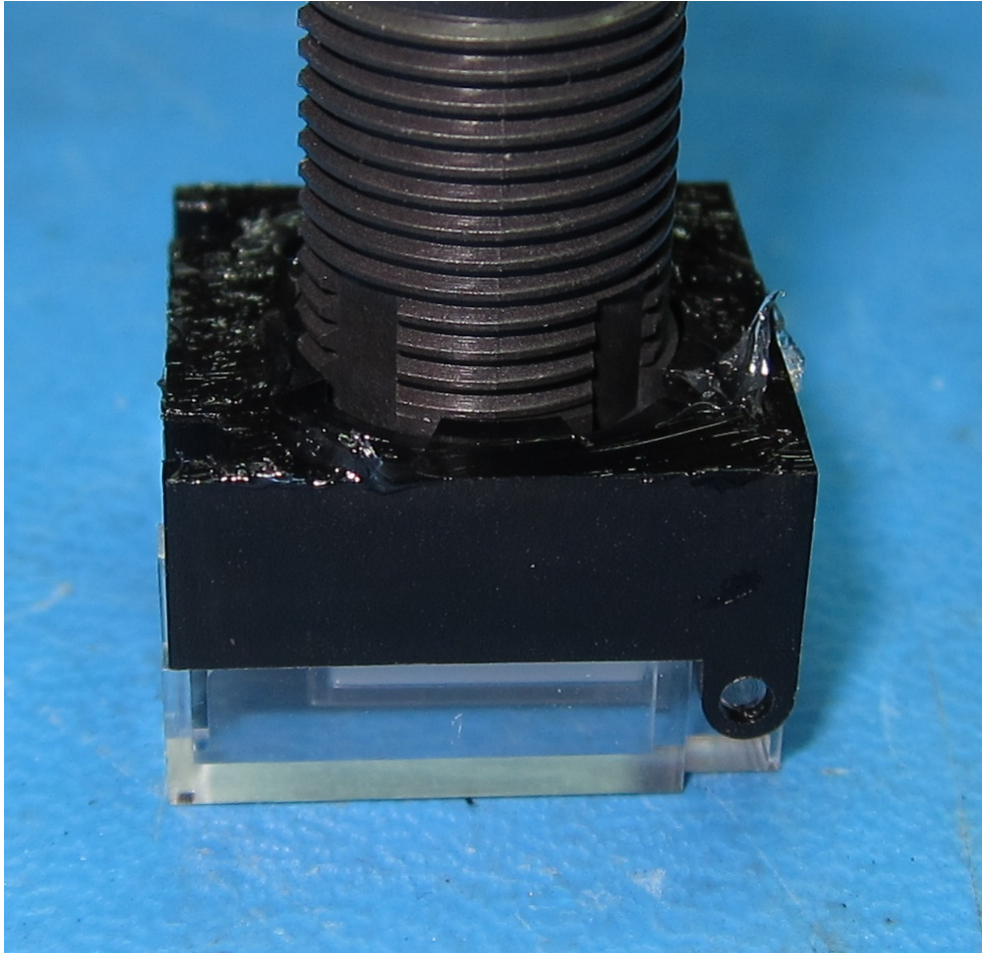

Figure 6: Applying the thin layer of silicone adhesive.
- (d) Close the protective cover and place it facing down on the workbench with switch terminals pointing up, see Fig. 6.
- (e) Use a tooth pick to apply a thin layer of silicone adhesive (Devcon 12045) to the flat area of the protective cover as shown in Figure 6.